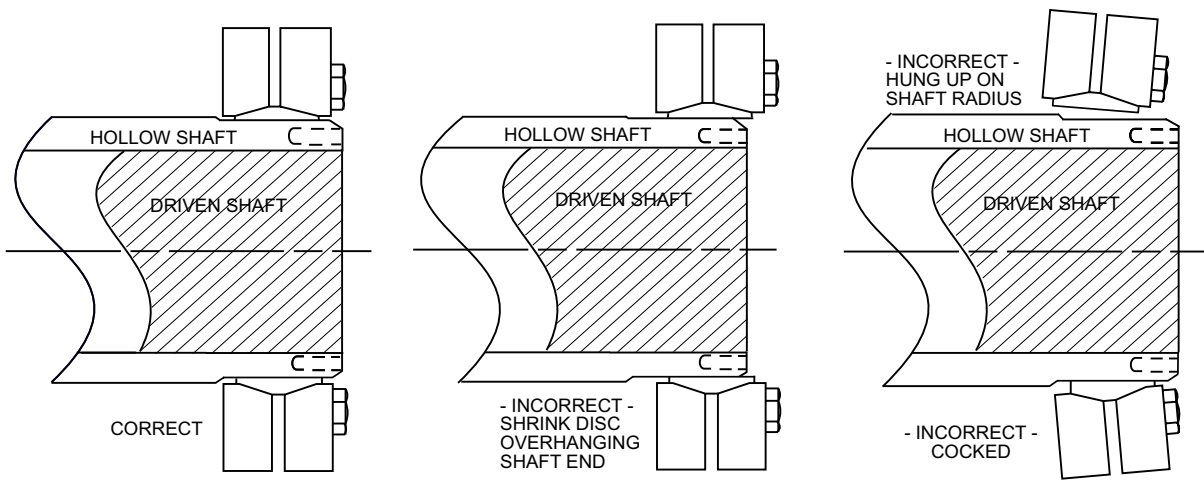

FIGURE 2 - SHRINK DISC LOCATION
1. Clean hollow shaft OD and shrink disc inner ring bore. Lightly lubricate hollow shaft OD with light mineral oil. Slide shrink disc onto shaft to its proper position (Figure 2, Page 2). Be certain that inner edge of shrink disc inner ring is not hung up on a shaft radius. Hand tighten three or four locking screws equally spaced around flange while maintaining outer collars parallel. Hand tighten remaining fasteners.